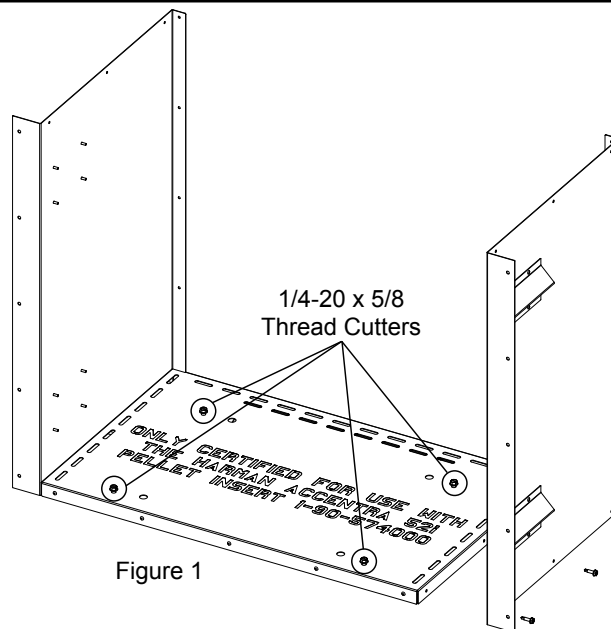

Figure 1
- Stand a side panel up to the right or left side of the bottom. Notice the bend at the rear of the cabinet will make the corner and at the front it will be bent outward to make the facing flange. Line up the holes and secure the side panel to the bottom with (3) Tek screws. Repeat for the opposite side. Figure 1.